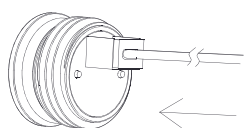

Fig:1
1. Connection of male and female connectors will help to turn on the photocell. (Fig:1)